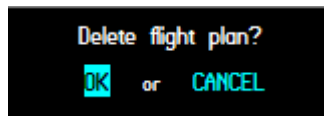

Figure 7.11
7.3 click on the ENTER key to display a window prompting to perform the function or cancel (Figure 7.11).